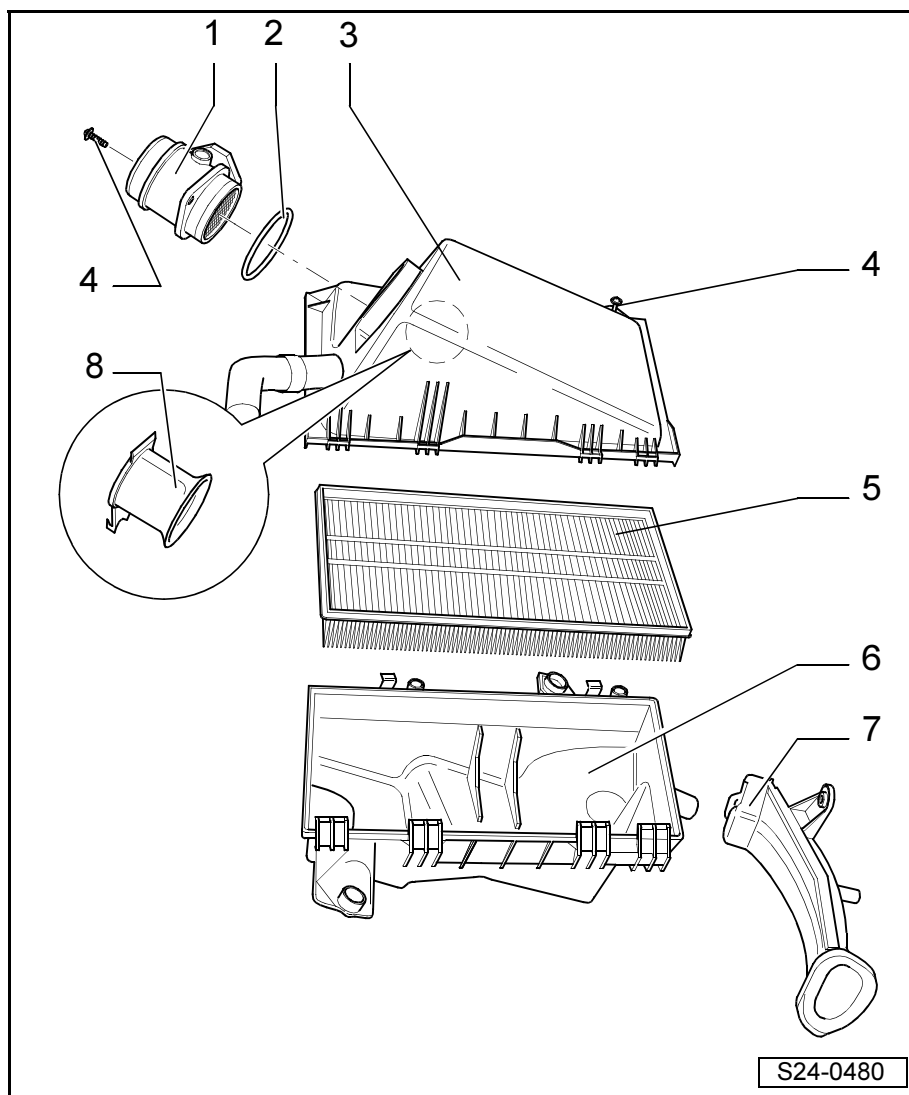

Fig. 1: Specified resistances for coolant temperature sender -G42- and intake air temperature sender -G62-
- ☐ Specified resistance values ⇒ Fig. 1 in **24-1** page 6